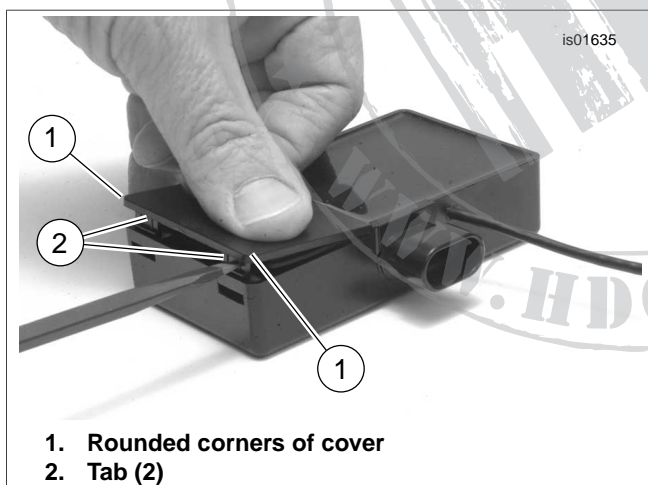

Figure 6. Snap Tabs Into Slots (Smart Siren II)
5. See Figure 6. Position the **original** battery cover onto the siren box with the rounded corners (1) facing out.
6. Press the cover down onto the siren box and press the tabs (2) in with the screwdriver until the tabs snap into the slots in the box.